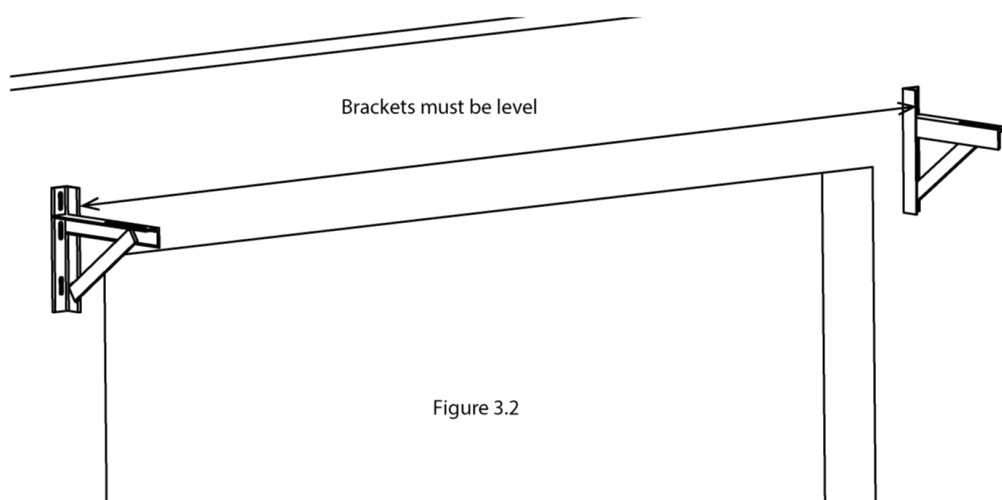

Figure 3.2
- e. Fix the hanging bracket with 2 x M10 coach bolts and flat washers. Refer to Figure 3.2 for correct orientation.